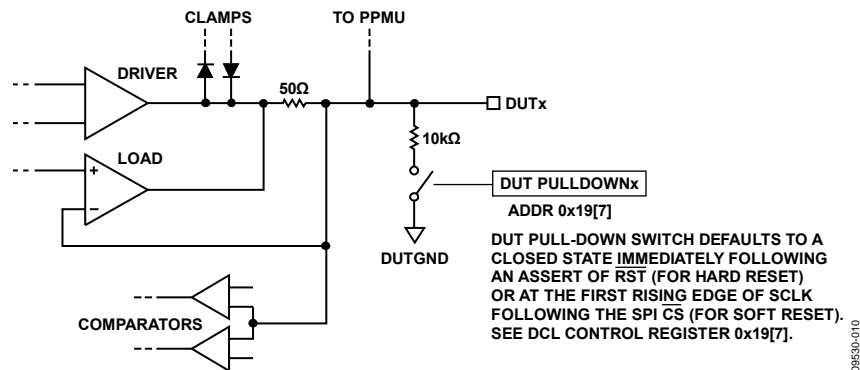

Figure 114. DUTx to  $V_{\text{DUTGND}}$  Soft Connect Detail
- Soft connect the DUT0 and DUT1 pins to  $V_{\text{DUTGND}}$  (see Figure 114)